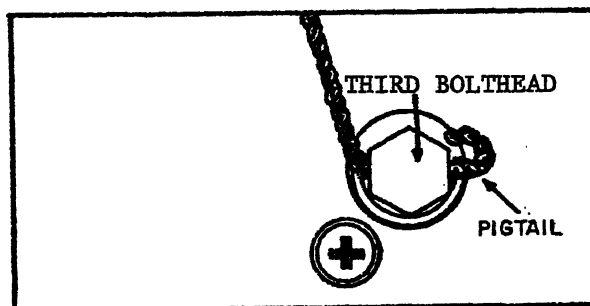

FIGURE 24
- c. Grasp the tip of the wire with the diagonal cutting pliers and roll the end back toward the bolthead to make a pigtail. See figure 24.